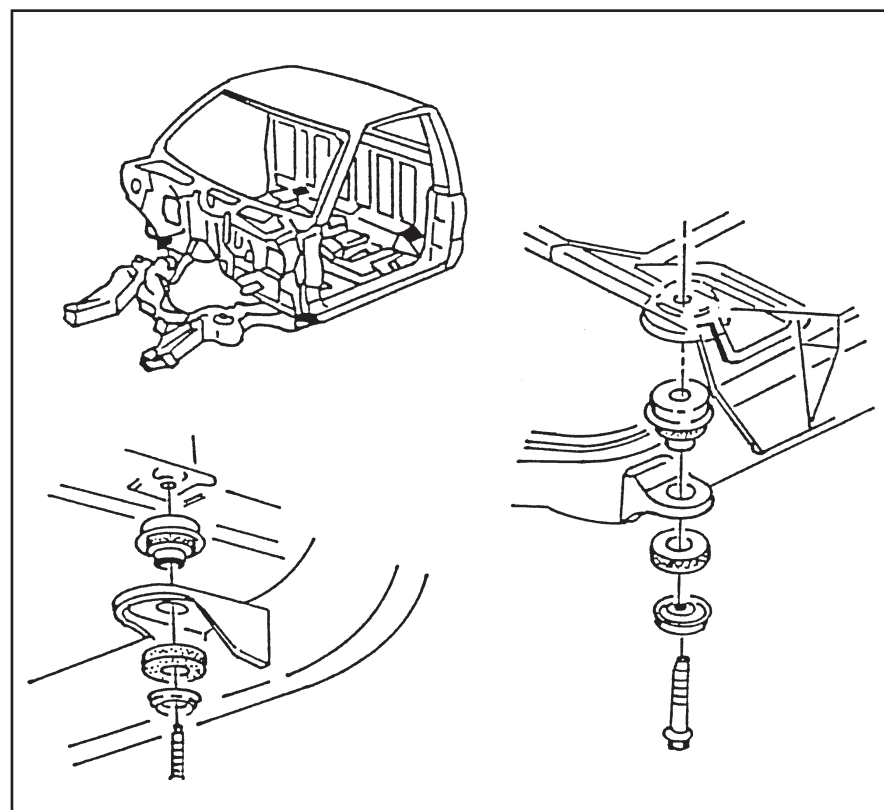

Figure 18
- Avoid mounting bodies directly to the top of the frame. Doing so restricts frame torsional flexibility. It may also promote body cracking and provide a direct path for chassis noise, vibration and harshness (NVH). Figure 18 shows typical body mounts.